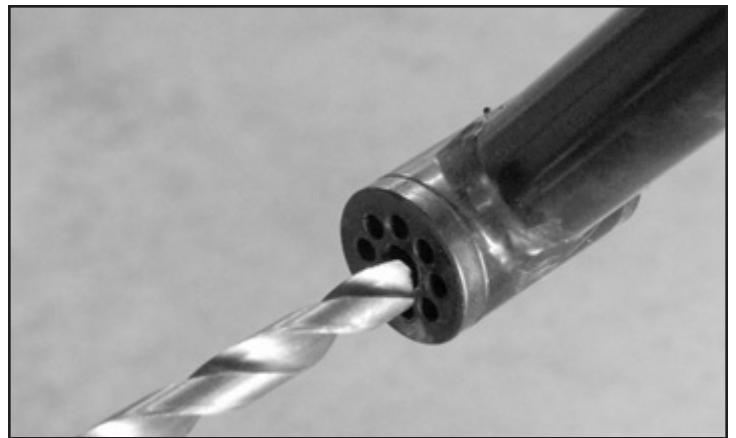

FIGURE 32 - STEP 31
31. Locate the Fabtech impact tubes (FT44017BK) Locate the Fabtech impact tube bushings (FT1044). Install the bushing into the barrels on the end of each impact tube. On one end of the driver side impact tube, you will need to drill out the bushings to ½". **NOTE - ONLY ON THE DRIVER SIDE AND ONLY ON ONE END. SEE FIGURE 32**